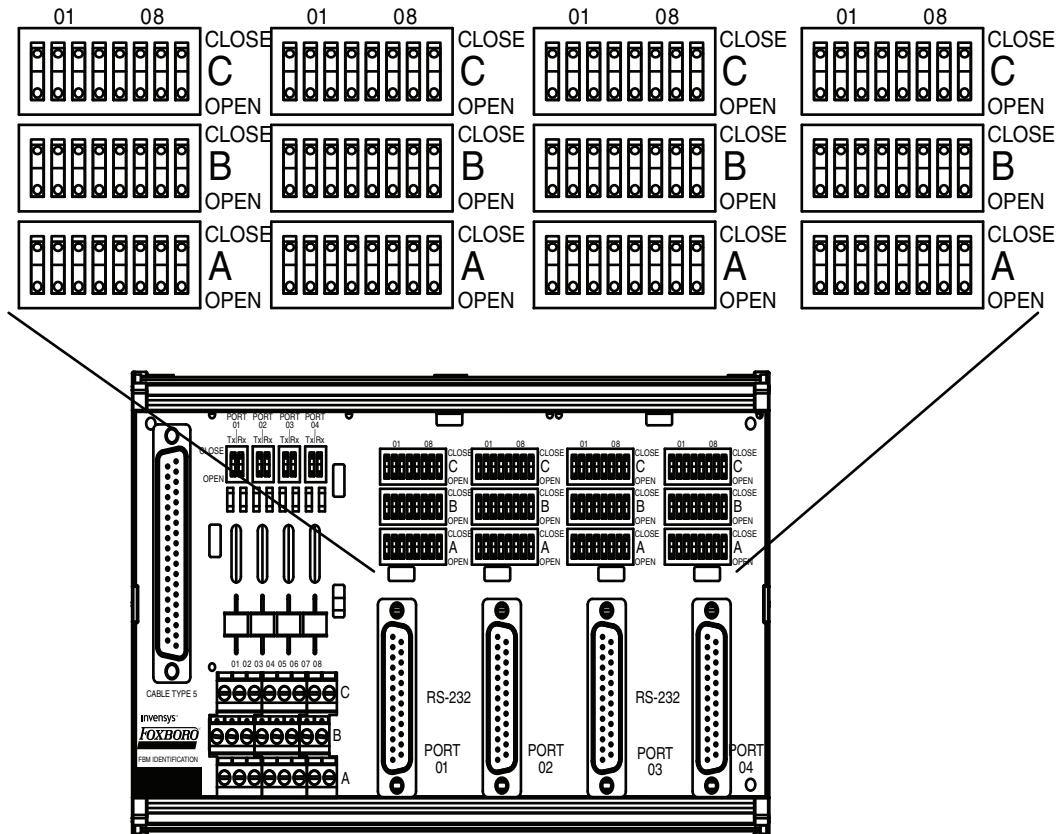

Figure 4-35. FBM231TA RS-232 Switches
- g. Set the RS-232 switches for the channel such that the C5 and C6 switches are in the CLOSED position and the rest of the switches are in the OPEN position (see Figure 4-35 on page 59).
- e. Set the RS-232 switches for the channel such that the C5 and C6 switches are in the CLOSED position and the rest of the switches are in the OPEN position (see Figure 4-35 on page 59).
Figure 4-35 shows the 24 switches in four groups (PORT 01 to PORT 04). Each port has 3 switch banks with a total of 24 individual switches per port. Each switch bank A, B, and C has 8 switches labeled 01 to 08. The designator CLOSE indicates that the switch is closed, when the switch is in the pressed down position.